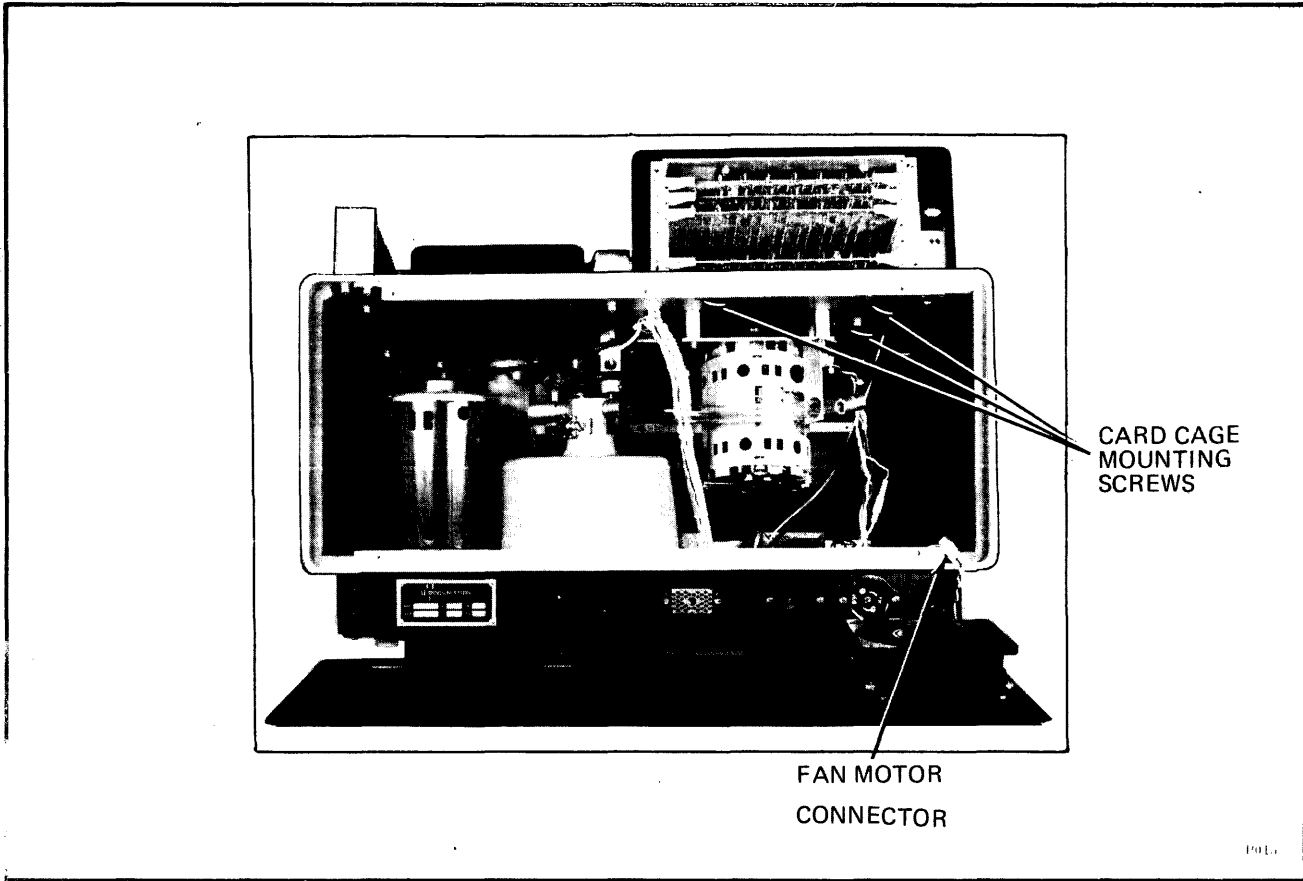

Figure 9-12. Card Cage Repositioning
- f. Using a 9/64 Allen wrench, remove three socket head screws holding card cage in place. Move card cage to rear and remount using two rear screws, Figures 9-12 and 9-13.
- c. To replace fourth stacker roller bearing assembly, Figure 9-12, perform the following:
- d. To replace fifth stacker roller bearings, Figure 9-12, perform the following: